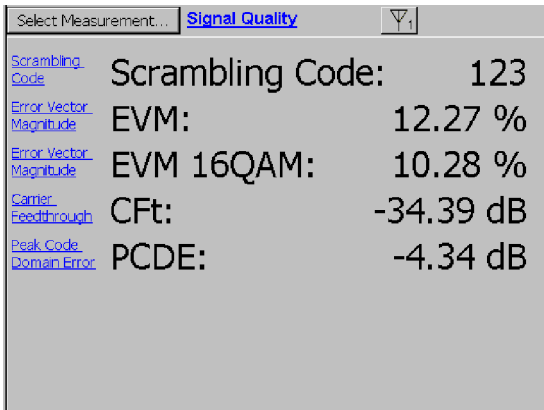

Figure 3-48: A W-CDMA Signal Quality display (option WD2)
3. Tap **Signal Quality**. See Figure 3-48.
The YBT250 displays an antenna button above the measurement display to indicate which antenna signal is the source for measurements. (see Figure 3-48.) Tap the button to open the **Edit > Meter** tab.